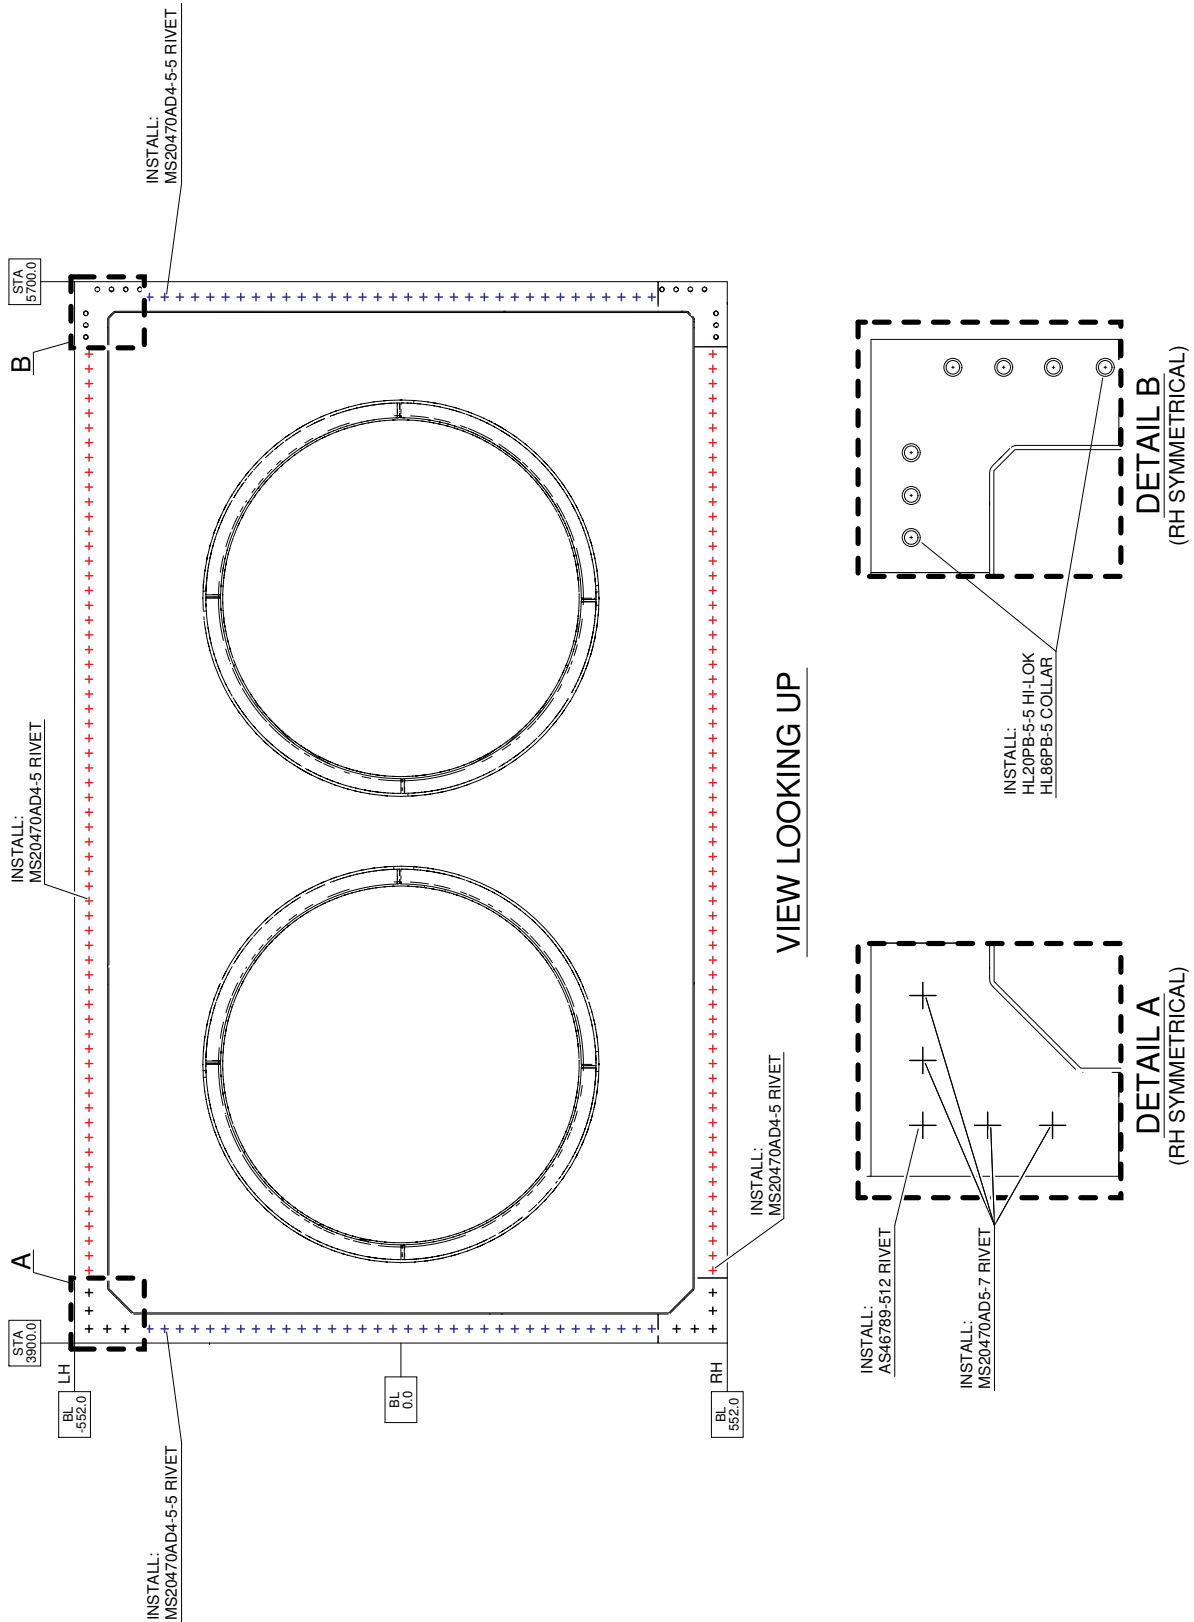

Figure 2
25. With reference to Figure 2, re-install the lower panel P/N 3P5333A01831 on the ceiling of the cabin.